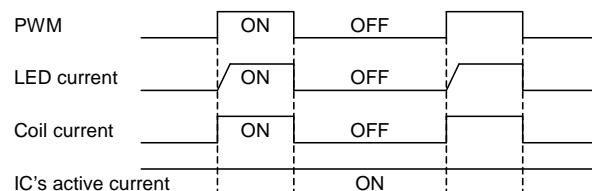

Figure 70. PWM dimming
(2) PWM Dimming controlled by 8bit current DAC and PWM duty for CABC, as shown in Figure 70.